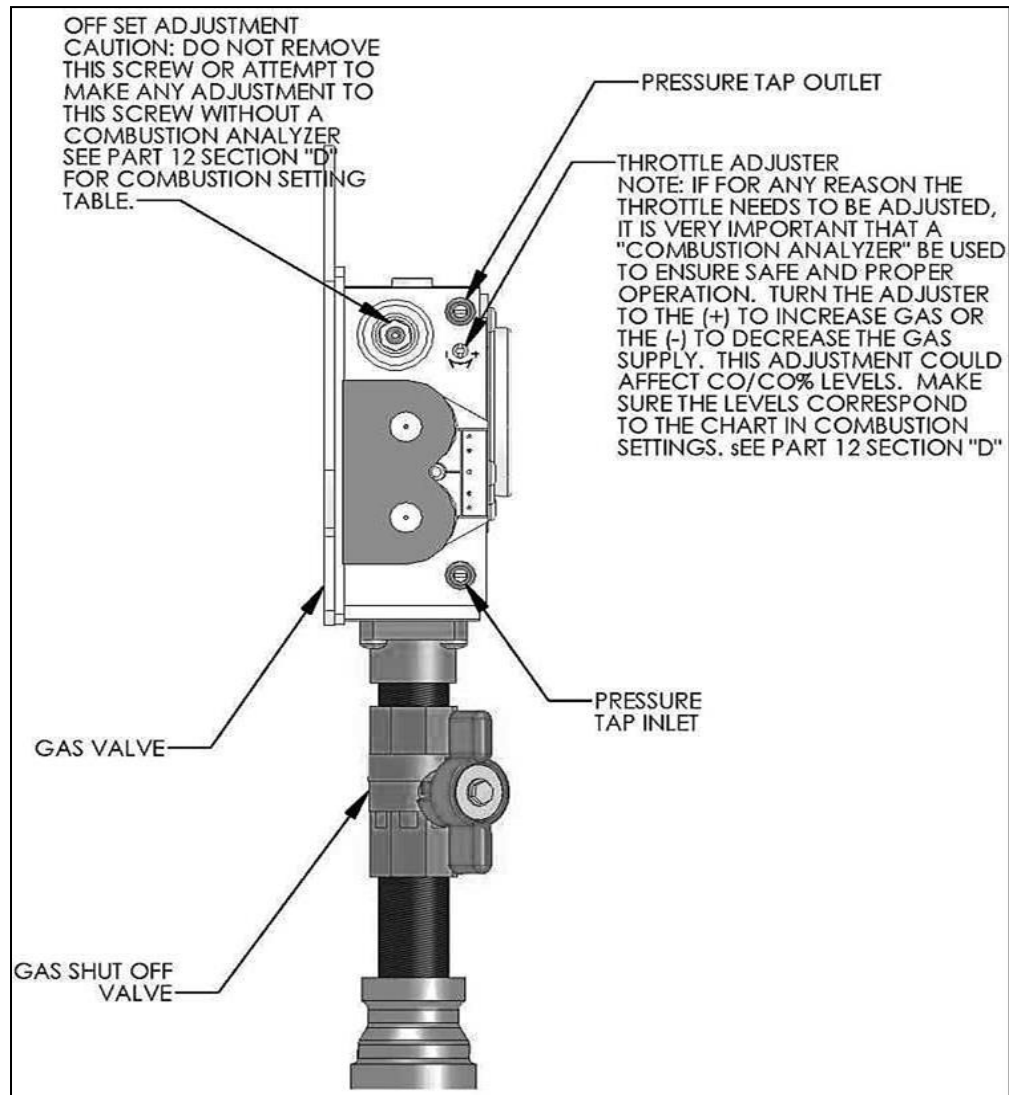

Figure 29 – LP-171-N
2. Loosen the pressure tap with a small screwdriver. Refer to Figure 29 for location.
3. Each heater is equipped with a needle valve that will accept a 5/16 ID hose to connect to a digital manometer or liquid gauge designed to measure incoming pressure from 0-35" w.c. See Figure 29.